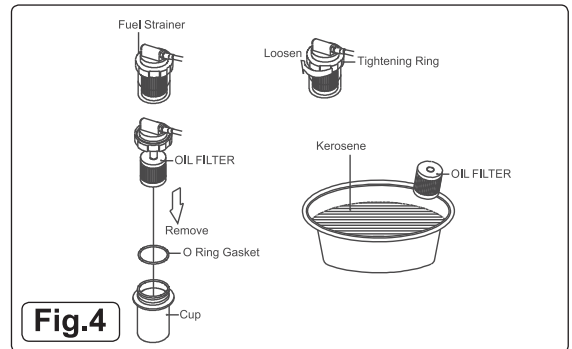

Fig.4
6.2 Filters - The Fuel Filter and Oil Filter should be cleaned at least twice per heating season by rinsing them in clean kerosene / paraffin. This procedure should also be followed if the fuel is found to be contaminated. (see Fig.4).